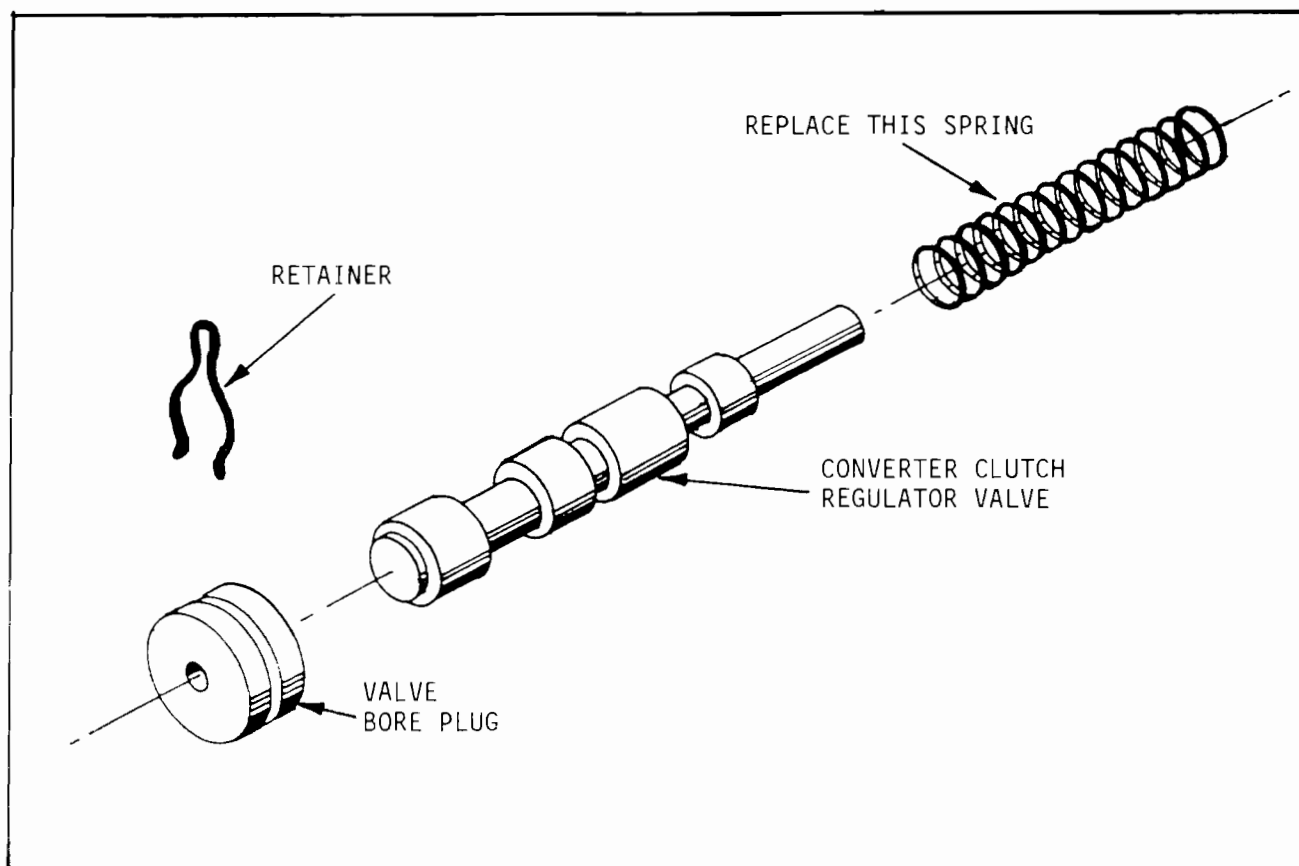

Figure 1
- CORRECTION: There is now available from the aftermarket suppliers a spring for the converter clutch regulator valve that raises the apply pressure to 61 PSI, and eliminates converter clutch shudder (See Figure 1).